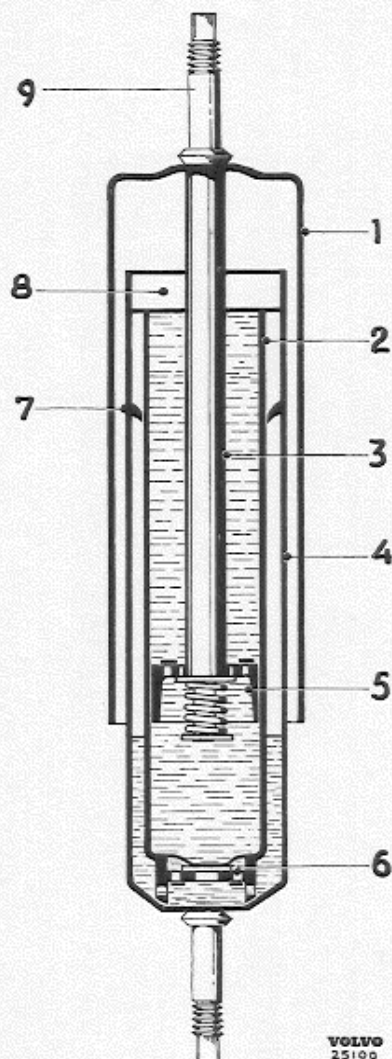

Fig. 6. Shock absorber.
The design of the shock absorbers is shown in Fig. 6. The outer cylinder (1) is a dust shield. The two inner cylinders (2) and (4) are concentrically arranged, one inside the other. The narrower of these two is the actual working cylinder (2) and is fitted with a valve (6) at its lower end. Inside this cylinder there is a piston (5) in which holes are drilled, passage through these holes being controlled by valves.
4. Fitting is carried out in the reverse order to that used when removing. Replace the washers and attaching plate as shown in Fig. 6. Tighten the nuts until $\frac{1}{8}$ " (3 mm) of the threaded end of the attachments is outside the nut.